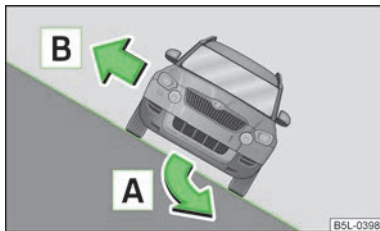

Fig. 137
If there is a risk your vehicle may tilt, steer immediately in direction of dip **A** and lightly depress the accelerator » Fig. 137.
If the vehicle comes to a standstill at a steep angle on a hillside and you and your passengers must exit the vehicle, then all the occupants should exit on the side facing up the hill **B** » Fig. 137.
- Before driving at an angle on a hillside **A** » Fig. 137, ensure that you can steer and maintain your trajectory. If you drive at an angle on a hillside and there is a risk your vehicle may tilt, steer immediately downhill on your trajectory and lightly depress the accelerator.
- In case the vehicle is stationary on a hillside at a steep angle, do not exit the vehicle when it is facing downhill. Always leave the vehicle carefully on the side facing downhill **B** » Fig. 137.